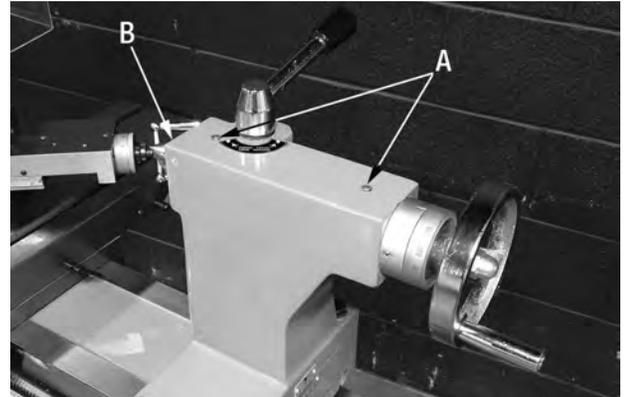

FIGURE 49
**Tailstock:** The tailstock is fitted with 2 oiling ports (A) Fig.49. The tailstock quill (B) may be oiled directly. Apply oil each week or after every five uses (depending on the frequency of operation).